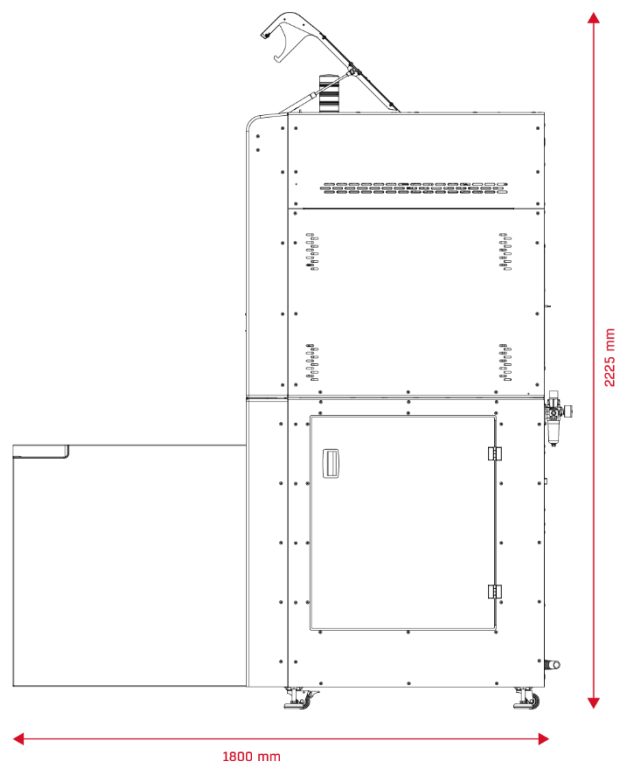

Fig. 5 Maximum printer size (depth and height)
- provide enough clear space around the printer based on the overall dimensions of the device (Fig. 3, 4); additionally, you ensure access to all sides of the printer to allow replacement of consumables or maintenance work as recommended by the manufacturer (Fig. 5, 6),
1. Move the printer to the desired location and make sure that the minimum space requirements are met (Fig. 5, 6).